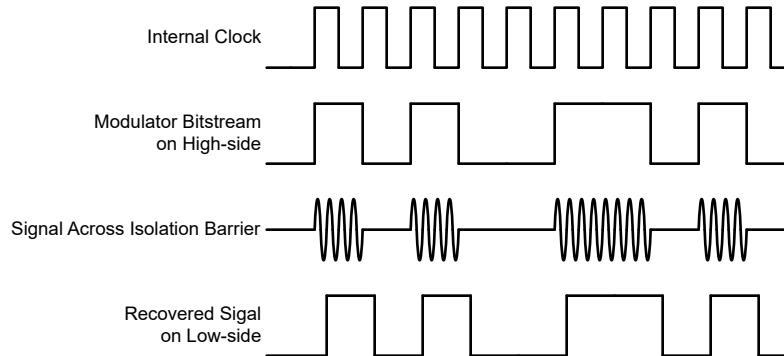

图 8-1. OOK-Based Modulation Scheme
The AMC1311 uses an on-off keying (OOK) modulation scheme, as shown in 图 8-1, to transmit the modulator output bitstream across the SiO₂-based isolation barrier. The transmit driver (TX) shown in the Functional Block Diagram transmits an internally-generated, high-frequency carrier across the isolation barrier to represent a digital *one* and does not send a signal to represent a digital *zero*. The nominal frequency of the carrier used inside the AMC1311 is 480 MHz.